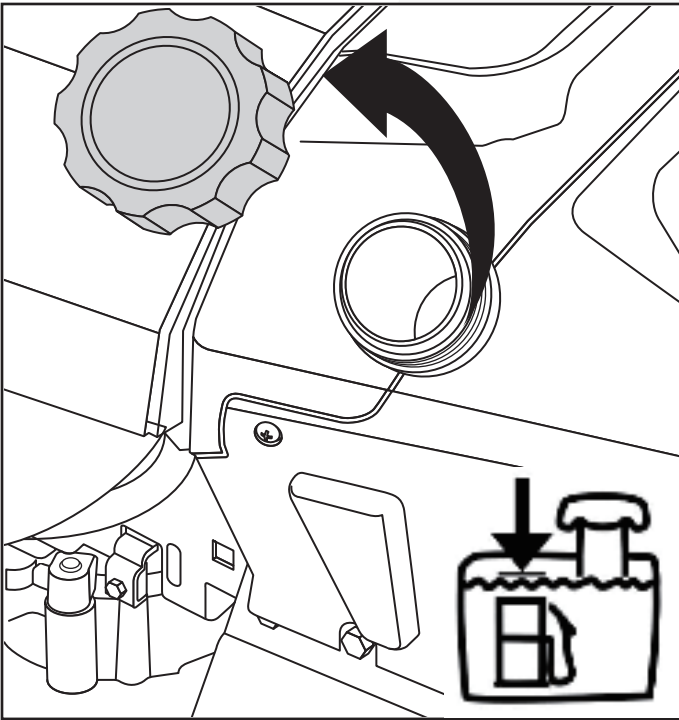

Fig. 15
2. Remove the fuel cap. (Fig.15)